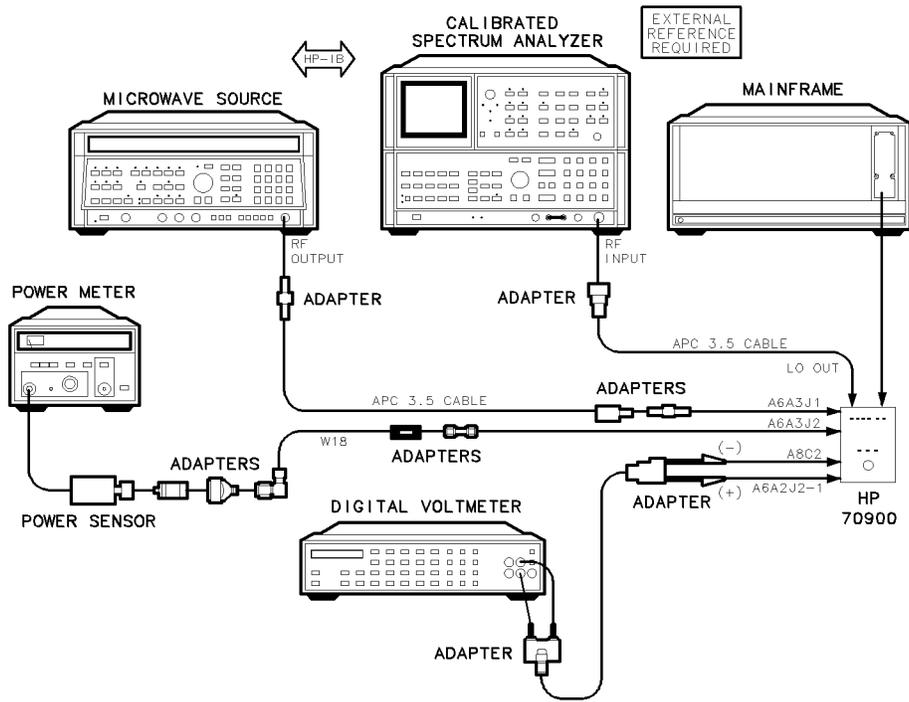

Figure 6-39. Equipment Setup for Adjustment 22. Idler Buffer
2. Remove the HP 70900B local oscillator source from the mainframe and place it on an extender module. Remove the module's cover. Connect the equipment as illustrated in Figure 6-39. Do not connect the microwave source or DVM at this time. Refer to Figure 10-9 for the location of A6A3 idler buffer (J1, J2), and A6A2 YTO lock (J5-1).